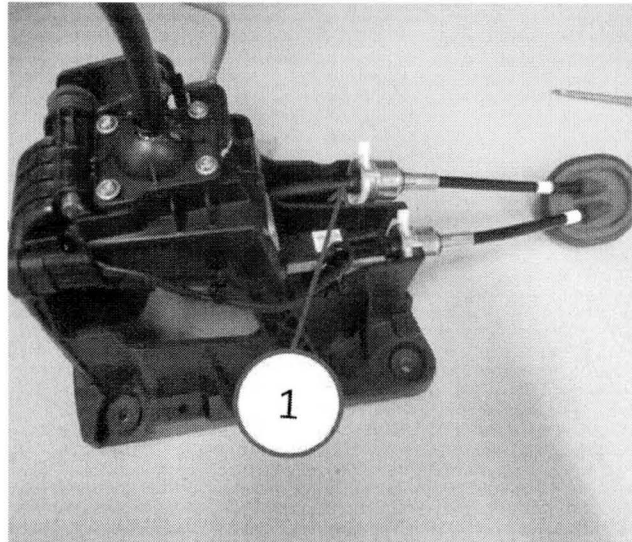

Fig. 3 Shift Module
7. Here is how an improperly seated cable will look Fig 3.